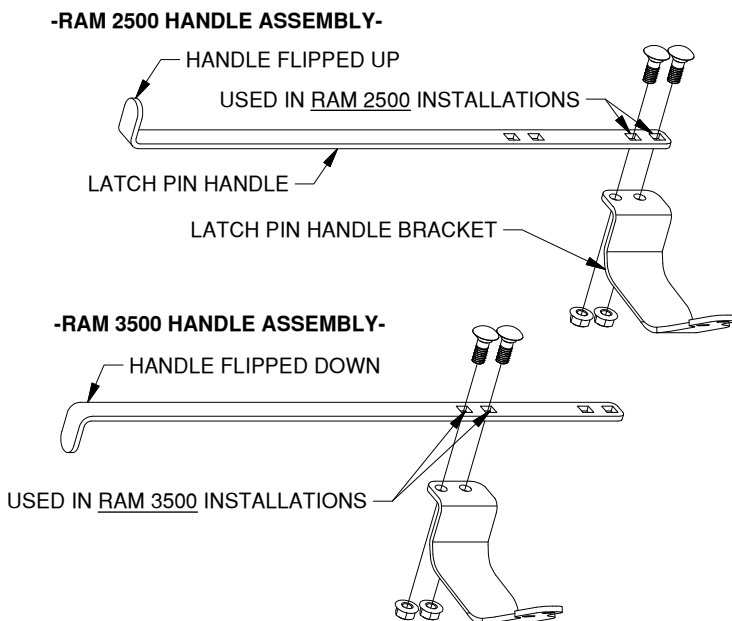

Figure C2: Latch handle assembly configurations.
2. **Assemble the handle.** Locate the latch pin handle and the latch pin handle bracket. The handle has two assembly configurations. The holes at the end of the handle are for installation in RAM 2500 trucks. In this configuration the handle will be flipped up. The holes that are about 4 inches from the end are for RAM 3500 truck installations. In this configuration the handle will be flipped down. Assemble the pieces of the handle with two 3/8" carriage bolts and 3/8" locking flange nuts, making sure that the edge of the handle is in line with the edge of the bracket, see Figure C2. Torque the nuts to 30 ft. lbs.